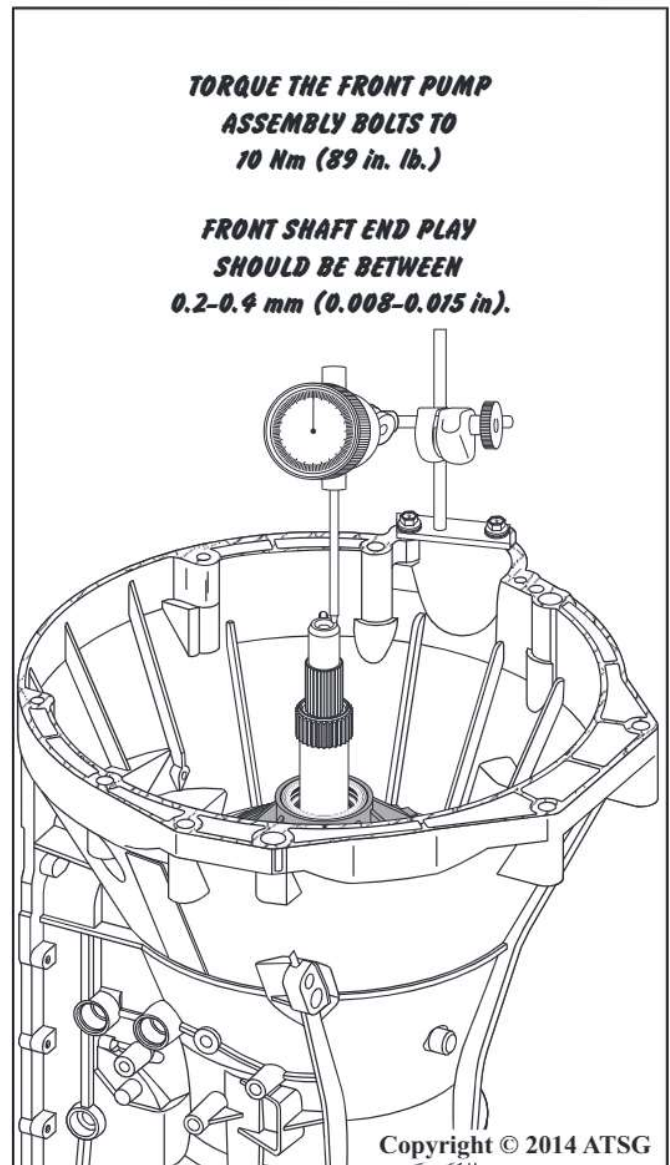

Figure 145
33. Using a torque wrench, torque the thirteen front pump assembly retaining bolts in a crisscross pattern to 10 Nm (89 in. lb.) as shown in Figure 145.
34. After the pump bolts are properly tightened, install a dial indicator onto the turbine shaft and check the front shaft end play as shown in Figure 145. Front shaft end play should be between 0.2-0.4 mm (0.008-0.015 in.).